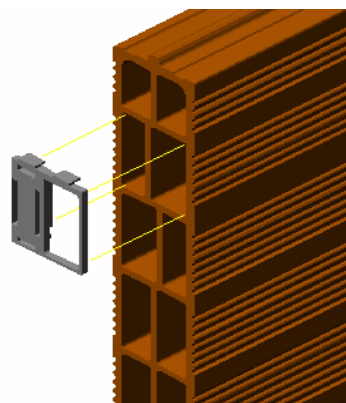

fig. 1
2. Only in the indicated rows and before placing each brick in its definitive position, the PASATUBOS piece is placed on the side of the brick, one per junction, being firmly secured thanks to the special design of its flaps. (see fig. 1 and 2).